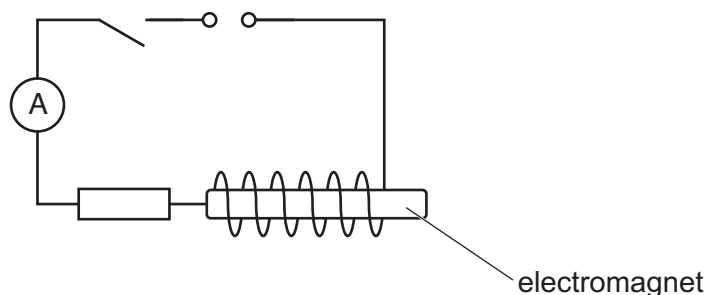

Fig. 2.1
3. The supervisor must set up the circuit shown in Fig. 2.1. One end of the nail used to make the electromagnet should be attached to a boss mounted approximately 10 cm above the bench on a stand.
At the changeover the supervisor should ensure that the circuit is in the configuration shown in Fig. 2.1 with the switch open and that the compass is still attached to the wooden rod.